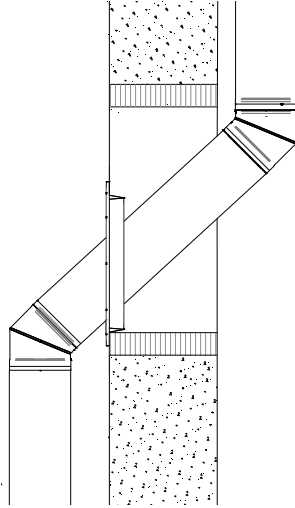
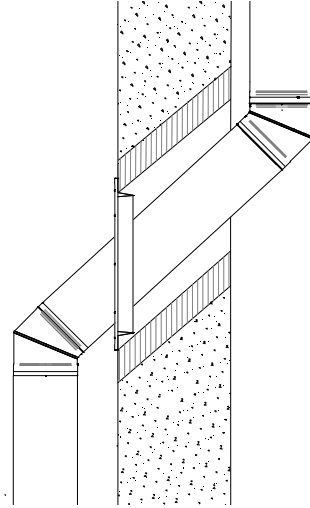

Figure 4
Figure 5
4. Build an enclosure around the chimney to prevent the insulation from coming into contact with the chimney. The enclosure can be straight (figure 4) or it can follow the slope of the chimney (figure 5) but must at all time respect the 2" clearance around the chimney.